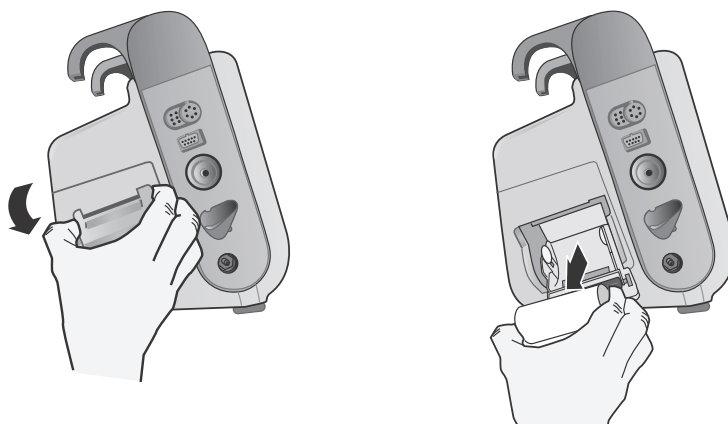

Figure 21-1. Opening the Printer Door and Removing Paper
1. Pull the printer door open (see Fig. 21-1), then remove any paper.